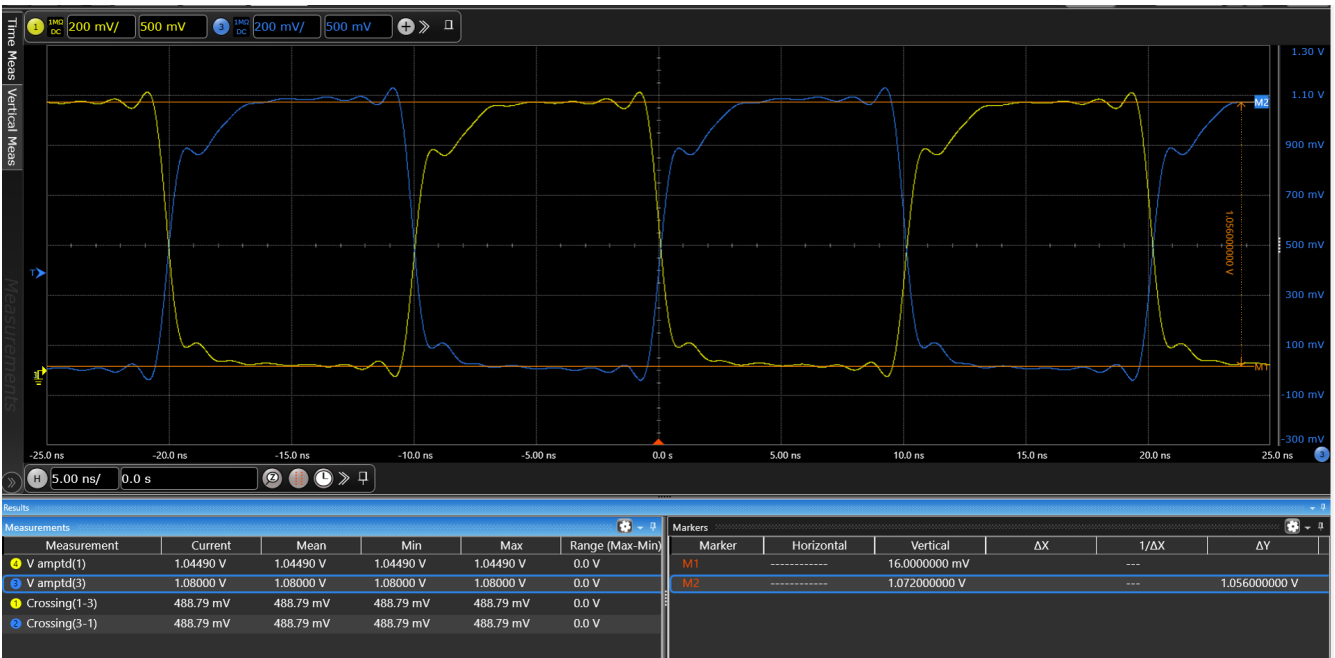

Figure 15. Vovs – HCSL Internal Termination, Boost = 30% on OUT0 (yellow trace) and nOUT0 (blue trace)
- Figure 15. Vovs – HCSL Internal Termination, Boost = 30% on OUT0 (yellow trace) and nOUT0 (blue trace)8